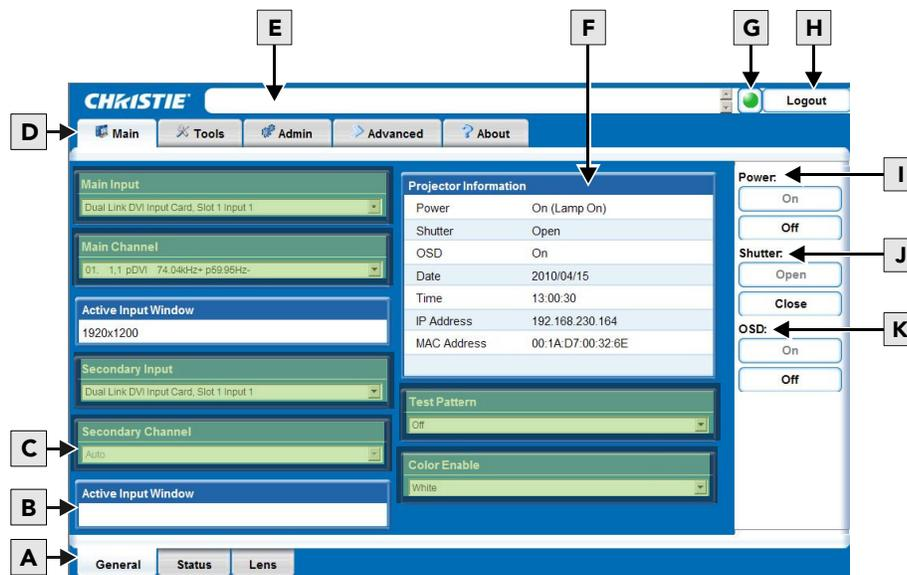

Figure B-3 Main window
4. Click the **Login** button. The **Main** window (see Figure B-3) appears.
The following table describes each area found in the Main window. See *Figure B-3*.
Under the **Main** tab, select the **General** secondary tab to view general information about Inputs, Channels, Projector Information, Test *Pattern*, and Color Enable (see Figure B-3). For detailed information refer to Section 3 Operation.